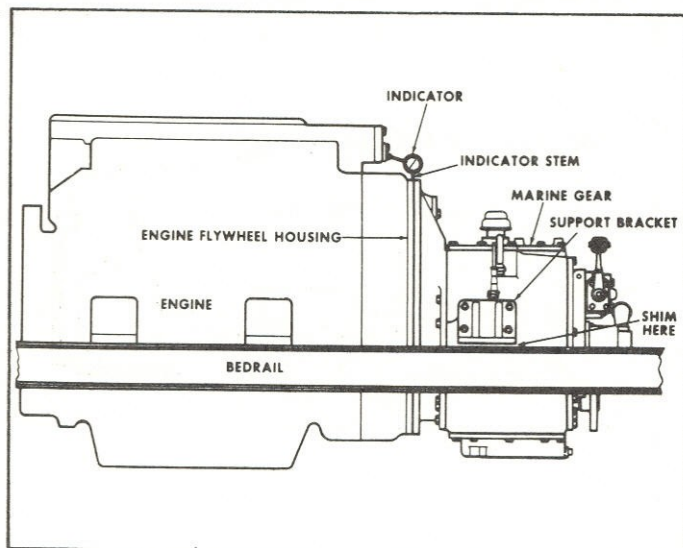

Figure 41. Alignment of Engine and Marine Gear.
**B. Alignment (fig. 41).** Install the support brackets on the side mounting pads of the marine gear. Install the isolator on the engine flywheel. Bolt an indicator to the engine block and set the indicator stem on the engine flywheel housing. Set the indicator gauge at zero. Lift the marine gear with a hoist, or other suitable means, and place the unit in position against the engine flywheel housing. Guide the input shaft spline into the isolator. Secure the housing adapter of the marine gear to the engine flywheel housing with suitable fasteners. Use a feeler gauge between each support bracket and engine bedrail. Add shims between the brackets and bedrails to equal the feeler gauge readings. Carefully release the lifting force on the marine gear. The indicator gauge must remain steady at the zero mark. If the reading moves from zero, lift the marine gear and insert additional shims. Continue this procedure until the marine gear is completely at rest on the bedrails and the gauge maintains a steady zero reading. After obtaining the correct zero reading, secure the support brackets to the engine bedrails. Gauge must remain at zero after bolting to bedrails.